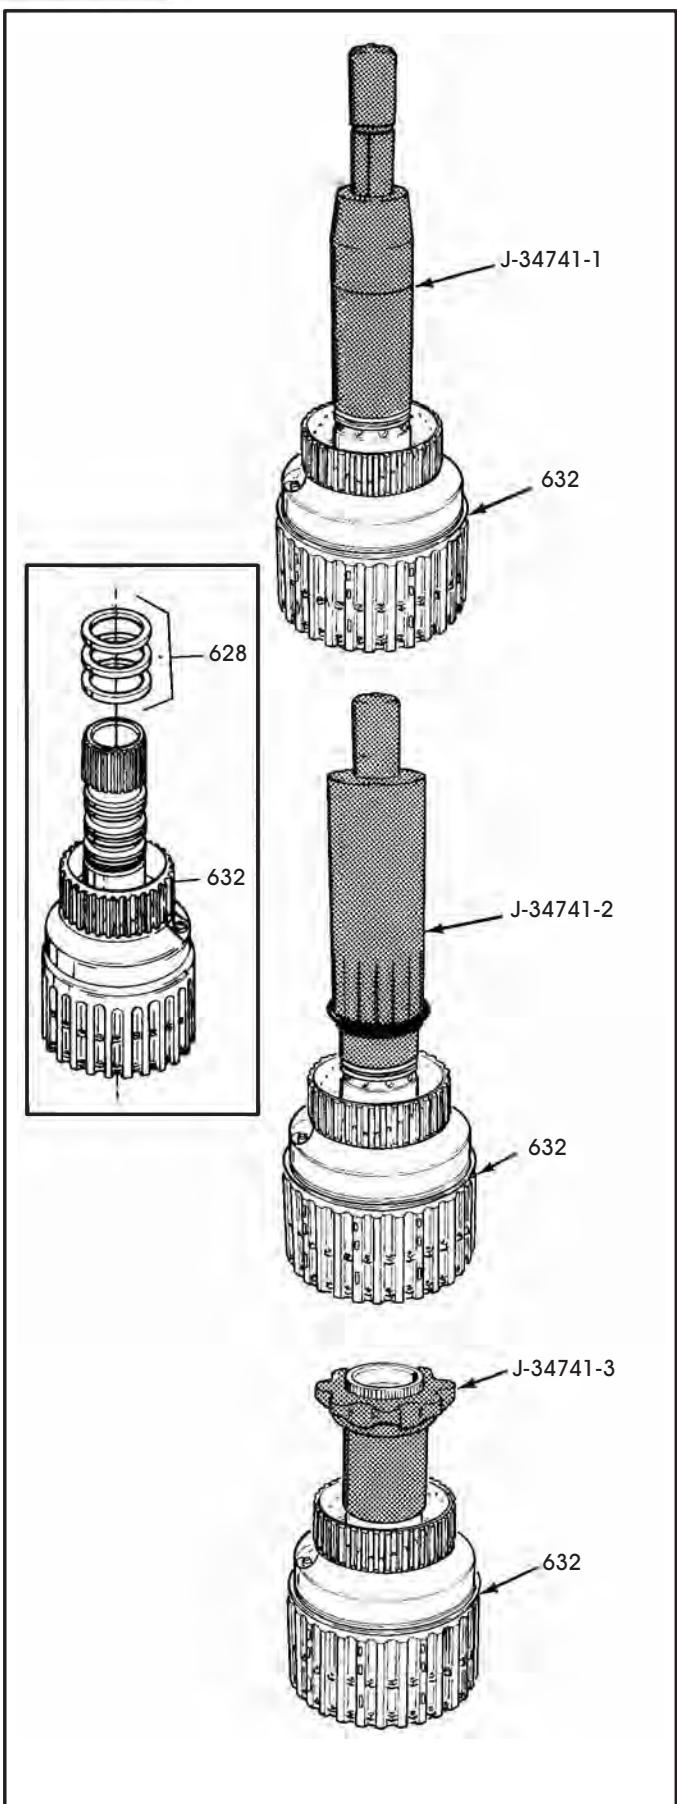

Figure 124
33. Adjust J-34741-1 so that the bottom of the seal installer matches the correct seal ring groove, as shown in Figure 124.
35. Using J-34741-2, quickly slide the seal into the seal groove, as shown in Figure 124.
37. Install resizing tool J-34741-3 over the seals with a twisting motion to size the oil seals, as shown in Figure 124.